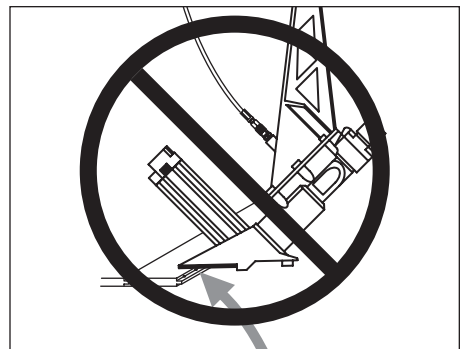

Figure 4
**▲ WARNING** Do not drive a nail on top of other nails. The nail could glance and cause death or a serious puncture wound. See Figure 4.